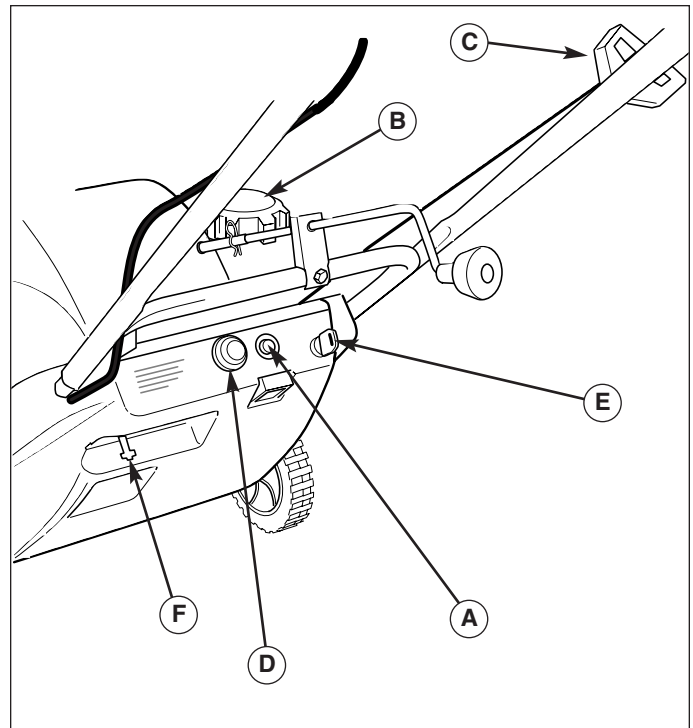

Figure 6. Engine Controls
A. Electric Start Button - The Electric Start Button (A, Figure 6) activates an electric starter mounted to the engine, eliminating the need to pull the starter handle. The Electric Start Button operates on 120 Volts AC, which is provided by connection to the extension cord provided with units equipped with this feature. **Connect this extension cord ONLY to a properly grounded 3 prong electrical outlet.**
- C. Starter Handle** - The starter handle (C, Figure 6) connects to a starter cord to manually start the engine. Pulling starter handle rapidly spins the engine crankshaft, cycles the engine, and generates the spark necessary for starting the engine.
- D. Primer Button** - When pressed, the Primer Button (D, Figure 6) provides initial fuel to help start a cold engine. Normally, pressing the primer button twice will provide enough fuel to start a cold engine.
- F. Choke Control** - The is control (F, Figure 6) adjusts the fuel/air mixture, and is used to help start a cold engine by providing a richer mixture. Once the engine is warm and running smoothly, the Choke Control should be set to the off position to provide a normal air/fuel mix.